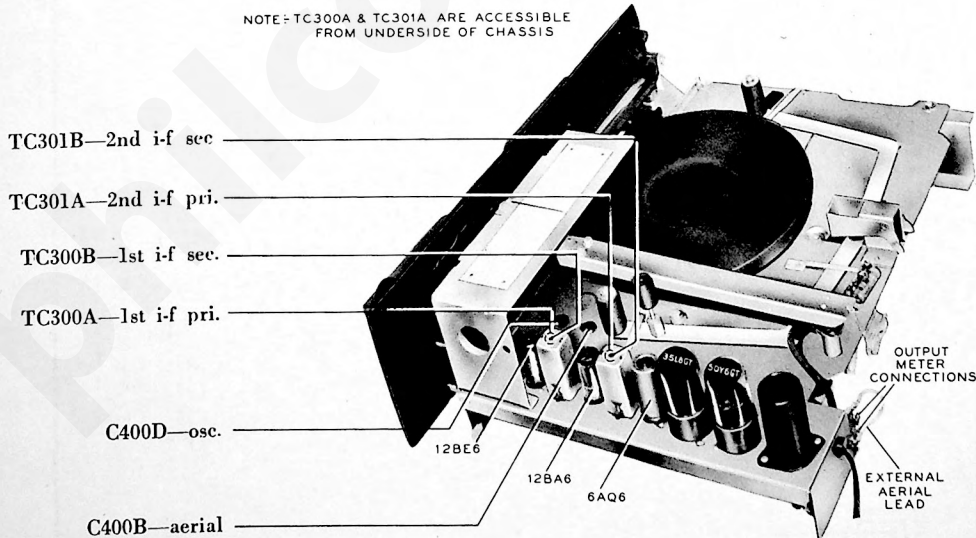

Figure 4. Top View, Showing Trimmer Locations
**OUTPUT METER** — Connect to terminals indicated in figure 4.